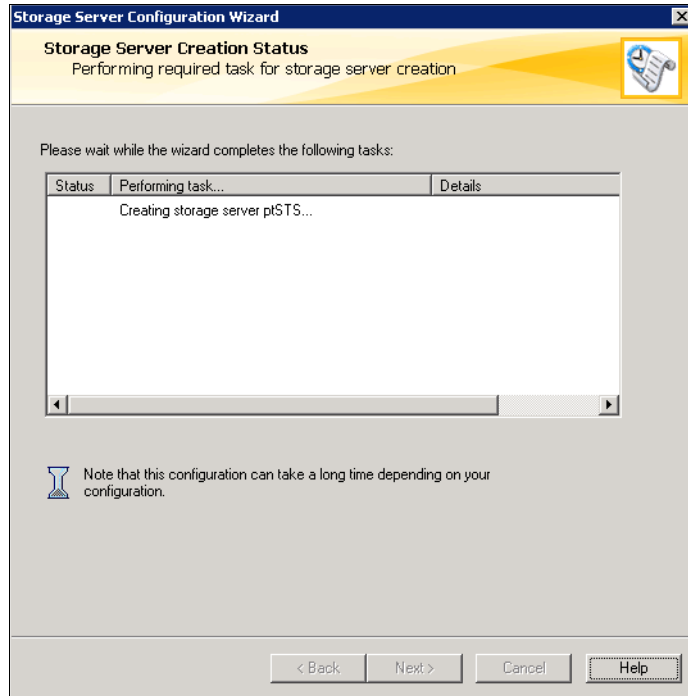
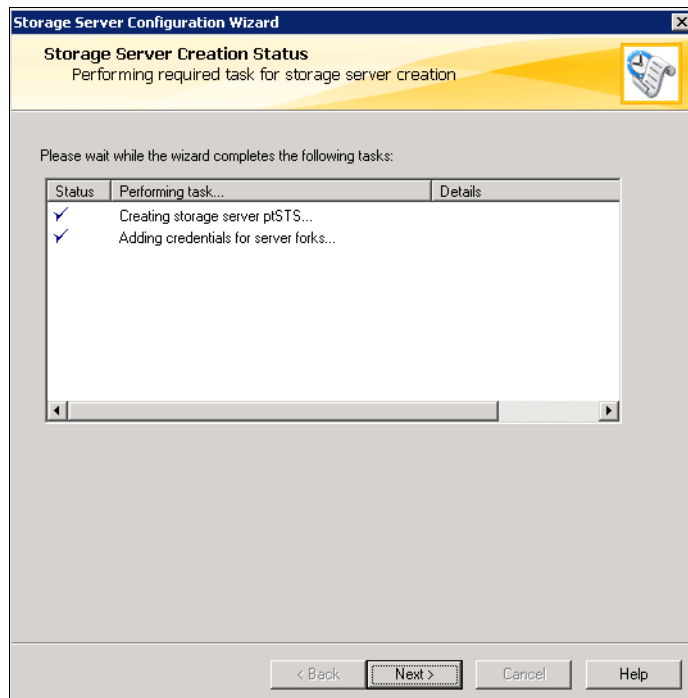

Figure 9-21 Input parameter validation and verification window
Figure 9-22 The results of verification
6. Verify and check the parameters and configuration (Figure 9-21) and the result of verification (Figure 9-22).